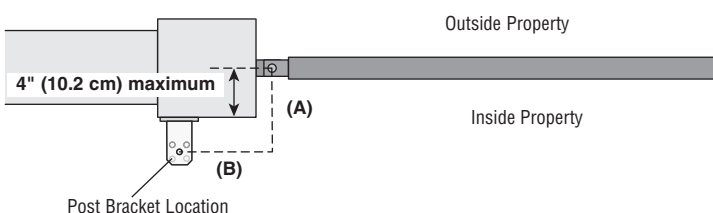

FIGURE 2
7. Position a level on the post bracket and measure 35-1/2 inches (90.2 cm) over from the center hole of the post bracket and mark the location on the gate (Figure 2).
- While the gate is in the fully open position, the operator needs a clearance of 11-1/4" (28.6 cm) as shown (Figure 2).